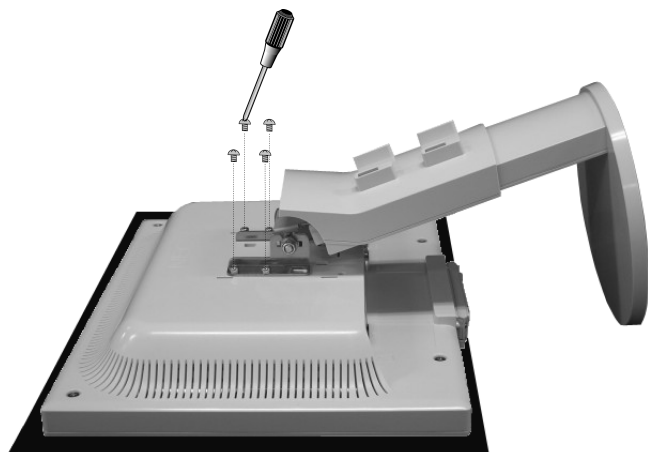

Figure S.4
5. Place monitor face down on a non-abrasive surface (**Figure S.4**).
6. Remove the 4 screws connecting the stand to the monitor (**Figure S.4**).